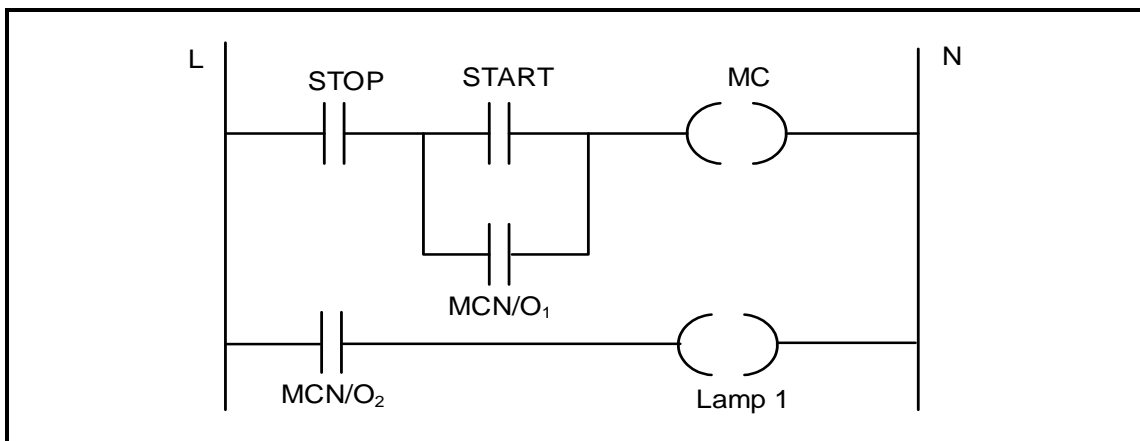

FIGURE 6.12: LADDER LOGIC CIRCUIT (4)
6.12 Refer to FIGURE 6.12 below and explain the sequence of operation of the circuit. (4)